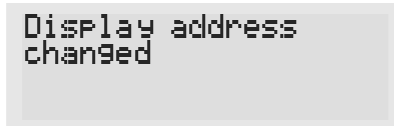

Fig. 4
- 使用↑↓键选择所需的地址，然后再次按下↓键确认。如果选择的值与之前保存的那个值不同，将显示如图4的界面，并且这个新值将被保存永久性存储器中。
- Use the ↑↓ buttons to select the desired value, and confirm by pressing ↓ again. If the value selected is not the same as the one saved previously, the screen shown in Fig. 4 will be displayed, and the new value will be saved to the permanent memory.